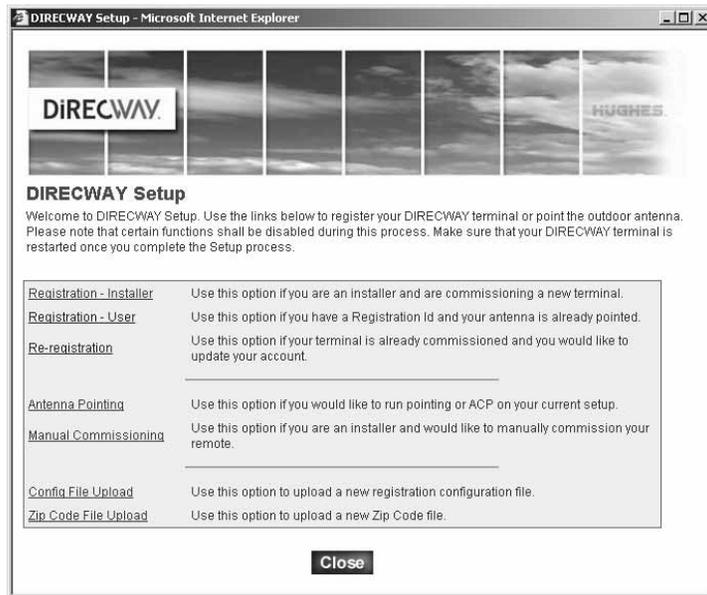

Figure 18: DIRECWAY Setup screen
3. Click **Registration - Installer** on the DIRECWAY Setup screen. See Figure 18.